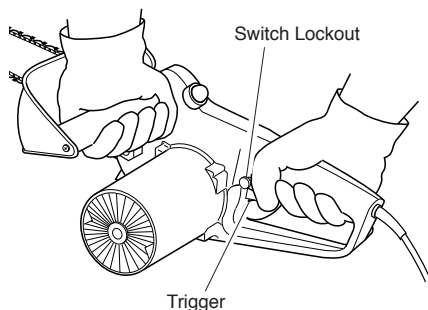

Figure 8 - Switch Lockout and Trigger Location
3. Use both hands to grip saw. Always use left hand to grip front handle and right hand to grip rear handle. Use firm grip. Thumbs and fingers must wrap around saw handles (see Figure 8, page11).
5. When ready to make a cut, press in switch lock-out with right thumb and squeeze trigger (see Figure 8, page 11). This will turn saw on. Releasing trigger will turn saw off. Make sure saw is running at full speed before starting a cut.